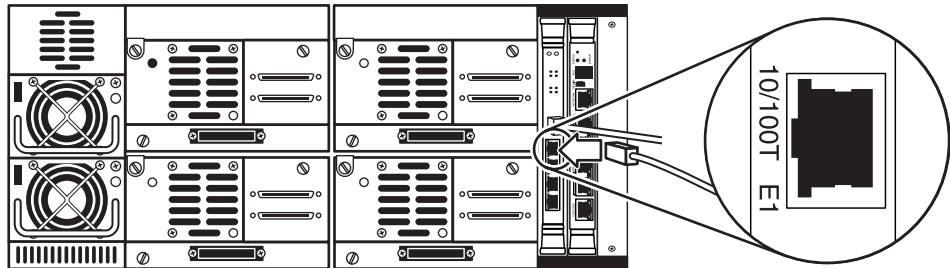

Figure 30: Connecting the cabinet controller Ethernet cable
3. Connect the 7 ft (2.11 m) black Ethernet cable attached to the cabinet controller at the bottom of the library to Ethernet port “E1” on drive cluster 0 (see Figure 30). The cable is connected to the cabinet controller in the factory and should be hanging in the channel on the right side of the cabinet.